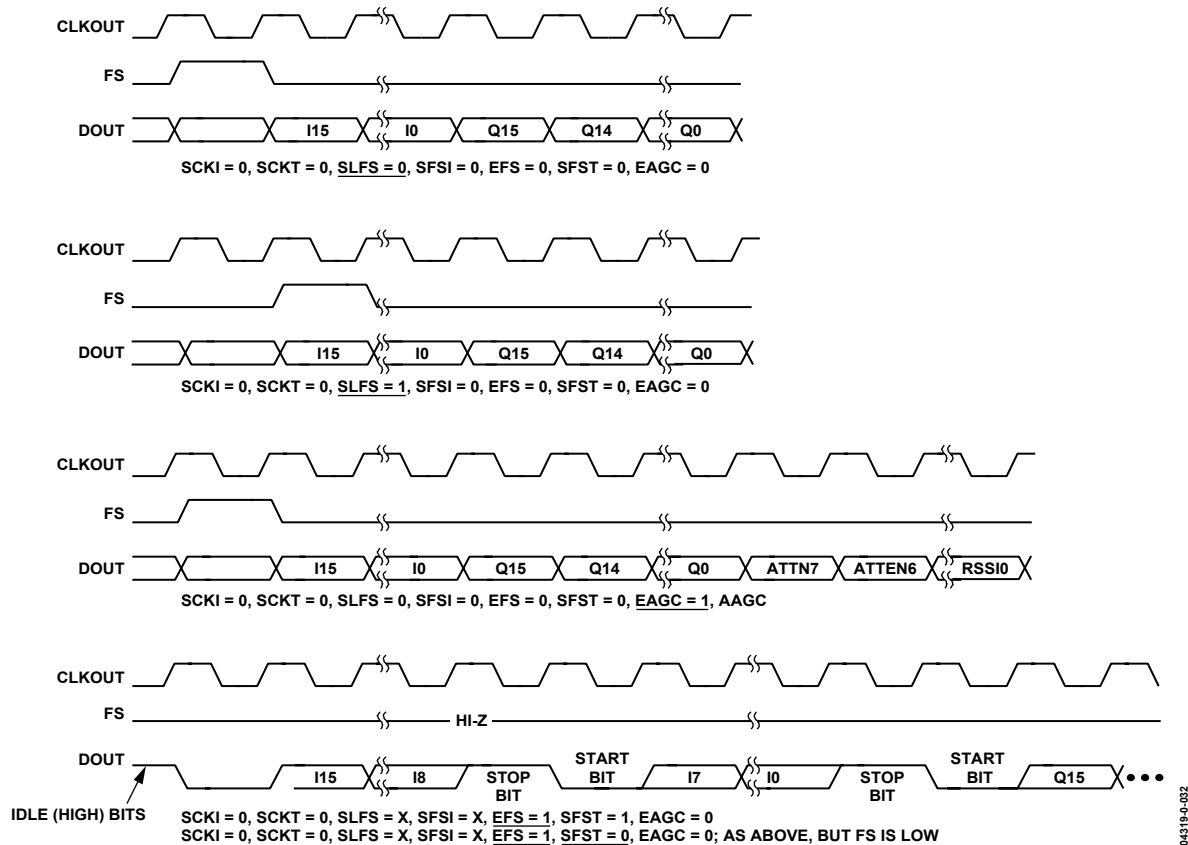
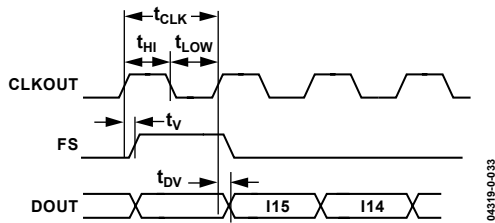

Figure 33. SSI Timing for Several SSICRA Settings with 16-Bit I/Q Data
Figure 34. SSI Timing Parameters for SSI Timing
Figure 33 illustrates the output timing of the SSI port for several SSI control register settings with 16-bit I/Q data, and Figure 34 shows the associated timing parameters. Note that the same timing relationship holds for 24-bit I/Q data, with the exception that I and Q word lengths now become 24 bits. In the default mode of operation, data is shifted out on rising edges of CLKOUT after a pulse equal to a clock period is output from the frame sync (FS) pin. As described above, the output data consists of a 16-bit or 24-bit I sample followed by a 16-bit or 24-bit Q sample, plus two optional bytes containing AGC and status information.
In Figure 34, the timing parameters also apply to inverted CLKOUT or FS modes, with  $t_{DV}$  relative to the falling edge of the CLK and/or FS.